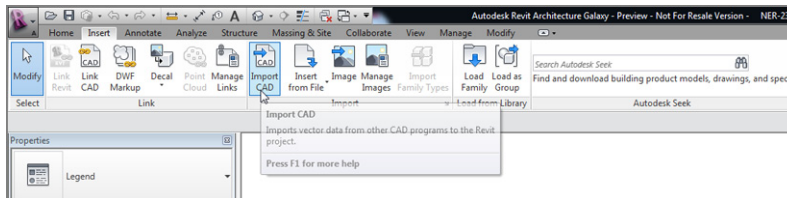

FIGURE 11.54: Importing CAD formats
4. On the Insert tab, click Import CAD, as shown in Figure 11.54.